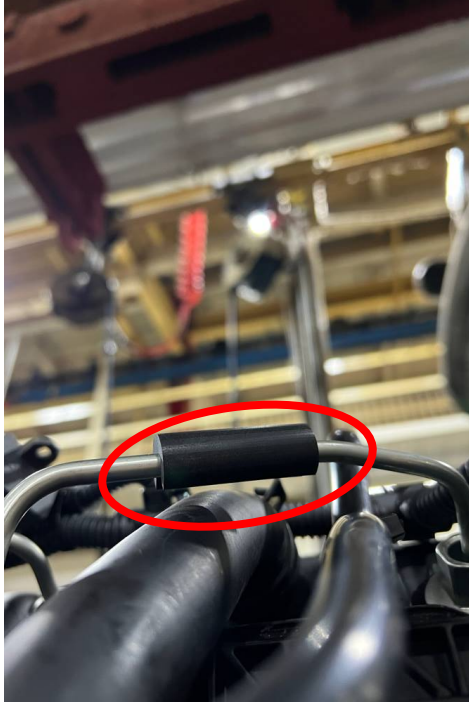

Figure 3: Example of the gap that should be present between the Vibration Isolator on Fuel Injector Supply Line #5 and the Crankcase Breather Tube
- b. Make sure there is a gap between the Vibration Isolator on Fuel Injector Supply Line #5 and the Crankcase Breather Tube. See figure 3 below